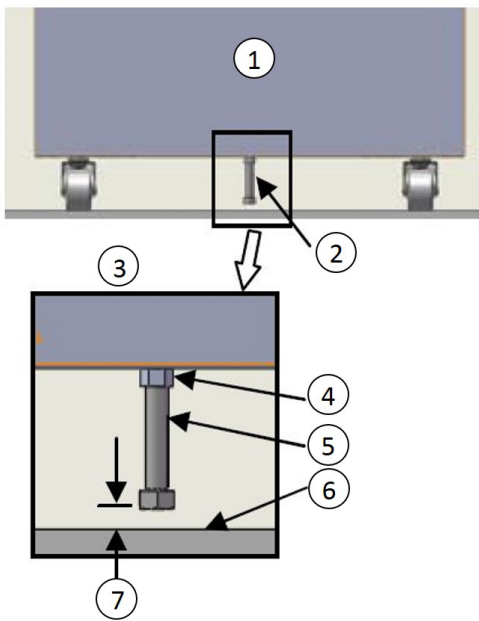

Figure 2. Bolt Location
- b. Unscrew 1/2" bolt until there is 1/2" clearance between floor and head of bolt as shown in the **"Figure 2. Bolt Location"**.